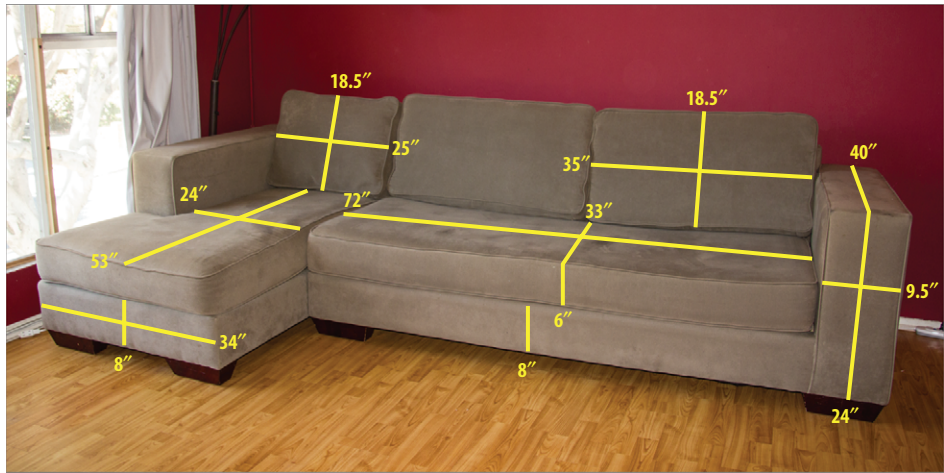

FIGURE 4.1 Couch with measurements
When you are starting a modeling project, make sure you have plenty of measurements, as shown in Figure 4.1, the photo of the couch you'll model in this chapter. Always remember: reference, reference, reference. Modeling this couch is a very straightforward process. If you break it down into separate components, it is just 16 different-sized boxes. The boxes are soft and cushy; they have various details, but nonetheless they are still just boxes. With the exception of the lounge end of the couch, the top cushion is the only piece on the couch that isn't a box shape.
Blocking out the model means creating a simpler version of the model starting with whatever primitives fit the bill—in this case, boxes. Using the measurements shown in Figure 4.1, you will create a series of boxes and then orient them to mimic the couch. The first piece you'll create is the bottom (the part between the seat cushions and the feet). It is 8 inches high by 72 inches wide by 33 inches deep. In the previous chapter, you used standard units of measurement (feet and inches); but for this chapter, you will use the default generic units. If your units are still set to feet and inches, refer to the section “Units Setup” in Chapter 3, “Modeling in 3ds Max: Architectural Model Part I” to review how to change the setting to generic units. Then follow these steps:
Now for the back piece: this is the part the back cushions sit on. You don't see it in the picture in Figure 4.1, but it is there.
18. Create three backrest cushions (two the same size and one that is smaller). As you are creating the couch pieces, name them. Use descriptive names to help you keep the project organized. Refer to Figure 4.1 for the measurements.
If you refer to the picture of the couch from Figure 4.1, you'll see that the arm is much more structured and closer to the shape of a box than this deflated balloon. You still need to sharpen the corners by adding more edges to the base model.
If you refer to the picture in Figure 4.1, you can see that the couch arm is even more squared off than the current mesh. In the next section, you will learn how to add more detail.